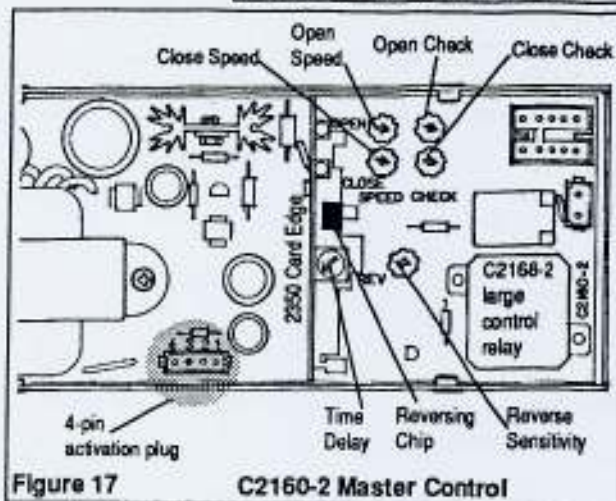

Figure 17
1. Adjust sensitivity fully counterclockwise (Figure 17).